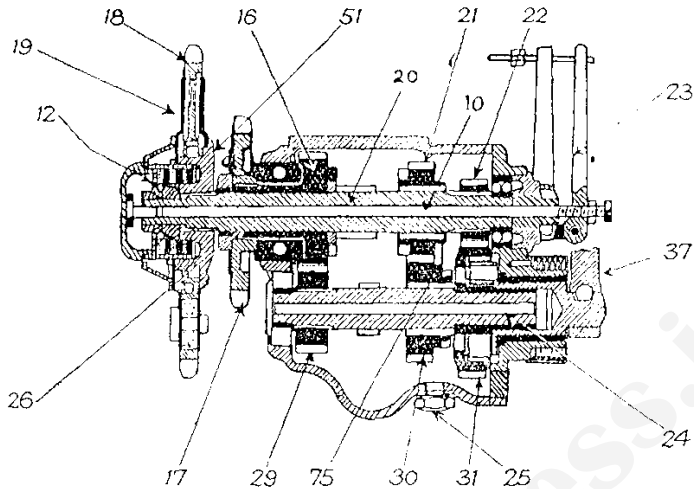

FIG. 43. SECTIONAL VIEW, SHOWING ARRANGEMENT OF STURMEY-ARCHER 3-SPEED 1930-33 LIGHTWEIGHT GEAR-BOX AND CLUTCH
The Sturmev-Archer Three-speed Gear-boxes (Fitted to Models T5, TB6, TB8, T9). Referring to the sectional view at Fig. 43, the clutch body (51) is keyed to the tapered end of the mainshaft, and the clutch sprocket, which becomes locked to the body by the spring (12), pressing the driven plates (19) against the friction inserts of the clutch sprocket. Thus so long as the engine is running and the clutch lever (23) is not causing the mainshaft thrust plunger (10) to release the spring pressure, the mainshaft (20) rotates on its ball bearings. On the clutch lever side a double-row ball bearing is used, while on the sprocket side a heavy single-row thrust ball bearing is used. Interposed between this and the mainshaft is a sleeve (26), to which are fixed the top gear dog wheel (10) and the gear-box sprocket (17). This sleeve is free to rotate on the mainshaft. The top gear dog wheel is in constant mesh with the layshaft driving pinion (29) keyed to the layshaft, so that whenever the layshaft is in motion (top gear excepted), the sleeve and gear-box sprocket transmitting the drive also rotate at a speed equal to layshaft speed \times ratio of the diameters of the two meshing pinions. Keyed to the end of the mainshaft opposite the clutch is the bottom gear pinion (22), and free to rotate upon the layshaft and in constant mesh with it is the layshaft driven dog wheel (31), which has a ratchet on its outer face, with
which the kickstarter pawl engages, thus rotating the clutch sprocket direct *rid* the fixed low gear pinion and this dog wheel. The mainshaft is splined for a considerable portion of its length, the unsplined part being that adjacent to the low gear pinion. Similarly, the layshaft is splined, except adjacent to the driving pinion. Two sliding dog wheels—one on the mainshaft and one on the layshaft—are simultaneously moved by a single striking-plate (75. Fig. 43) and two forks, whose endwise movement is controlled by a lever arm engaging a ball end; positive indexing of the gear positions is provided by a spring-loaded plunger engaging four small circular recesses in one of the fork sides. The two sliding dog wheels are responsible for connecting the primary and secondary drives, and providing the three speeds which are obtained as follows.
Top Gear (Third). The mainshaft and layshaft sliding dog-wheels are moved to the extreme left (Fig. 43), until the mainshaft sliding dog wheel interlocks with the top gear dog wheel. The layshaft sliding dog wheel thus automatically becomes free to idle on the layshaft non-splined portion, while the top gear dog wheel, gear-box sprocket, and clutch sprocket rotate as a single unit giving a direct or top gear drive.
Neutral. The sliding dog wheels are moved a trifle farther to the right until the mainshaft sliding dog wheel leaves the mainshaft splines and simply idles on the mainshaft, causing no rotation whatever of the layshaft. Fig. 43 shows neutral position.